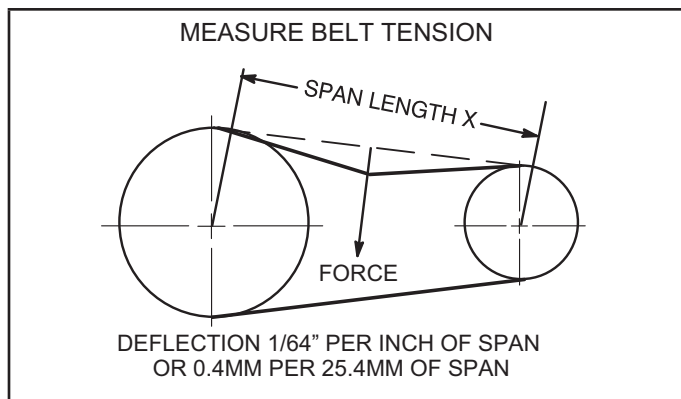

FIGURE 22
- 1 - Measure span length (X). See FIGURE 22.
- 2 - Apply perpendicular force to center of span (X) with enough pressure to deflect belt 1/64" for every inch of span length or 0.4mm per 25.4mm of span length.